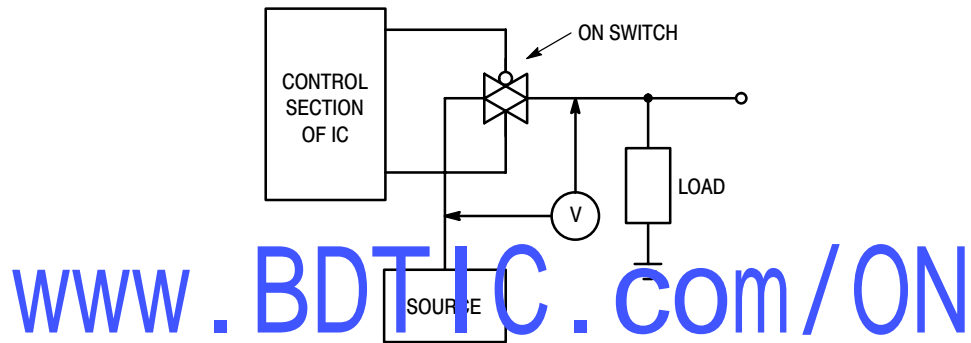

Figure 14. ΔV Across Switch
3. For voltage drops across the switch (ΔV_{switch}) > 600 mV (> 300 mV at high temperature), excessive V_{DD} current may be drawn; i.e., the current out of the switch may contain both V_{DD} and switch input components. The reliability of the device will be unaffected unless the Maximum Ratings are exceeded. (See first page of this data sheet.) Reference Figure 14.